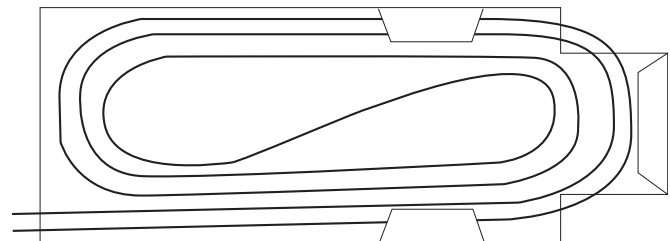

Figure 6
- Store the slack ribbon and uncut ribbon loops in the FOSC ACC D basket as shown in Figure 6. Secure in place with tie wraps.